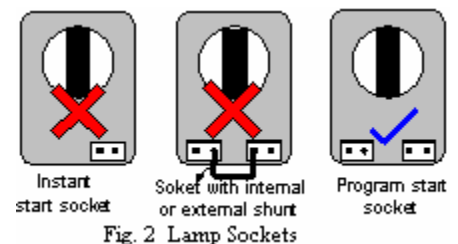

Fig. 2 Lamp Sockets
- ❑ Never use shunted or instant start lamp sockets with AddressPro® fixtures (see fig 2).